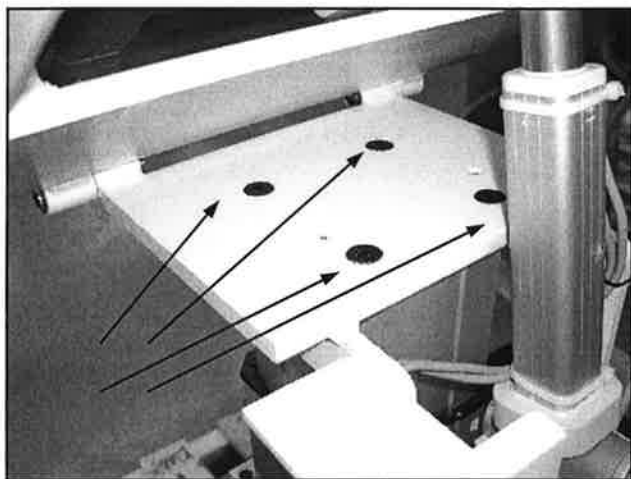

Figure 4
- 6) Using a 6mm metric allen wrench, remove the (4) 10mm x 40mm flat head screws holding the pivot plate assy, (figure 4). ***NOTE: If difficulty is experienced removing the flat head screws securing the top to the base or the lifting column to the base plate, a impact driver equipped with a 6mm allen wrench tip should be used to loosen the bolts.*** Carefully remove the en-